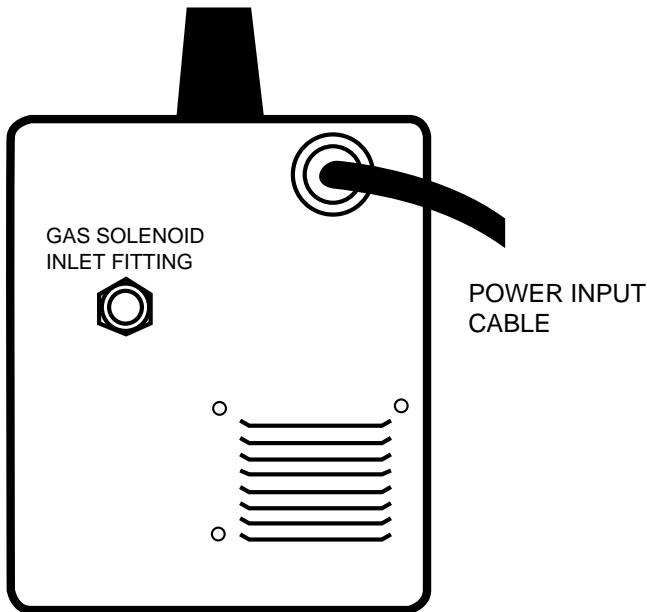

FIGURE A.6
4. Refer to Figure A.6. Attach one end of inlet gas hose to the outlet fitting of the flow regulator and tighten the union nut securely with a wrench. Connect the other end to the SP-100T Gas Solenoid Inlet Fitting (5/8-18 female threads — for CGA — 032 fitting). Make certain the gas hose is not kinked or twisted.
Refer to Figure A.6.